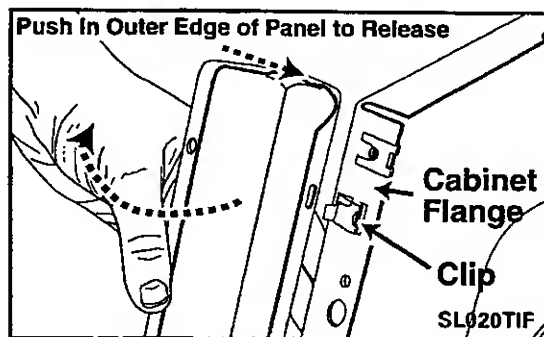

Figure 5-4
4. To remove the front panel, open the door, twist the upper right and left panel extensions inward by pressing in on the outer upper edges of the front panel posts. This will disengage the front panel posts from clips located on the face of the cabinet flange (*Figure 5-4*).
5. Tilt the top of the front panel away from the washer. Remove the front panel (*Figure 5-4*).